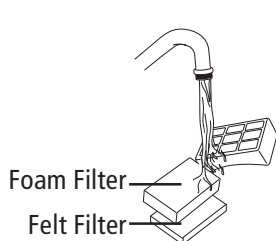

Fig. 24
- 3 Rinse the filters and frame thoroughly in lukewarm water until the water runs clear. **(Fig. 24)**